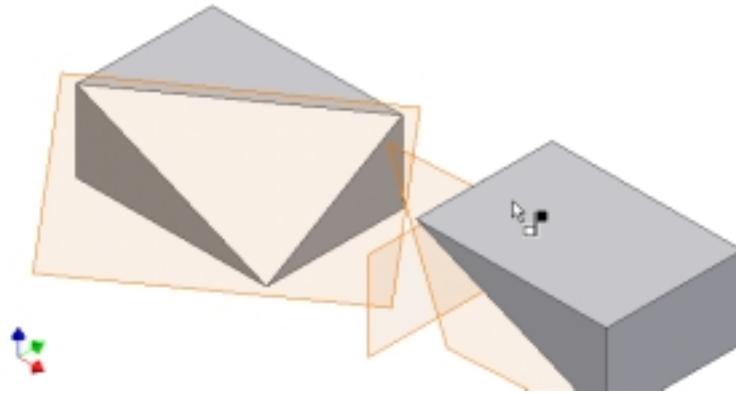

Figure 3-51
13. Release the Alt key and drag the component to the work plane indicated in Figure 3-51.